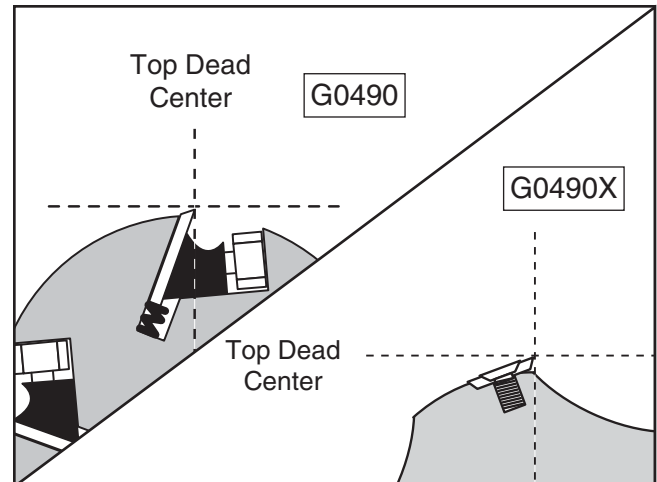

Figure 68. Knife or insert at top dead center.
6. Use the motor pulley to rotate the cutterhead until one of the knives or inserts is at top dead center (its highest point during rotation), as illustrated in **Figures 68–69**.